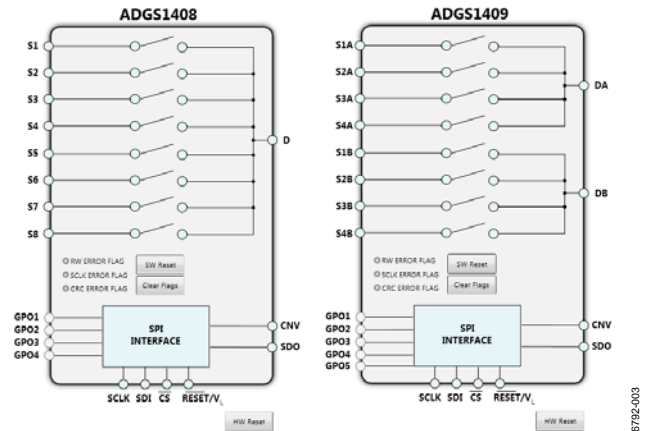

Figure 3. Evaluation Board View of the EVAL-ADGS1408SDZ/EVAL-ADGS1409SDZ
4. Double-click the **ADGS1408/ADGS1409SDZ Board** plug-in to open the evaluation board view shown in Figure 3. This figure shows the basic functionality and main functions of the EVAL-ADGS1408SDZ/EVAL-ADGS1409SDZ evaluation boards.